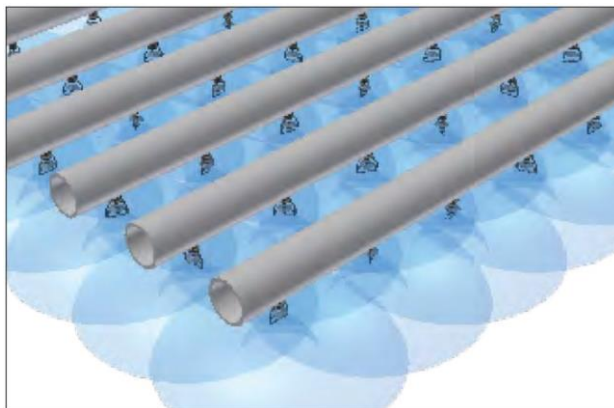

Figure 10. Nozzle Spray Pattern
- Start the recirculating pump. Make sure the fan motor is locked out and tagged out. Check to see if the nozzles are all spraying consistently and producing the spray pattern shown in **Figure 10**.